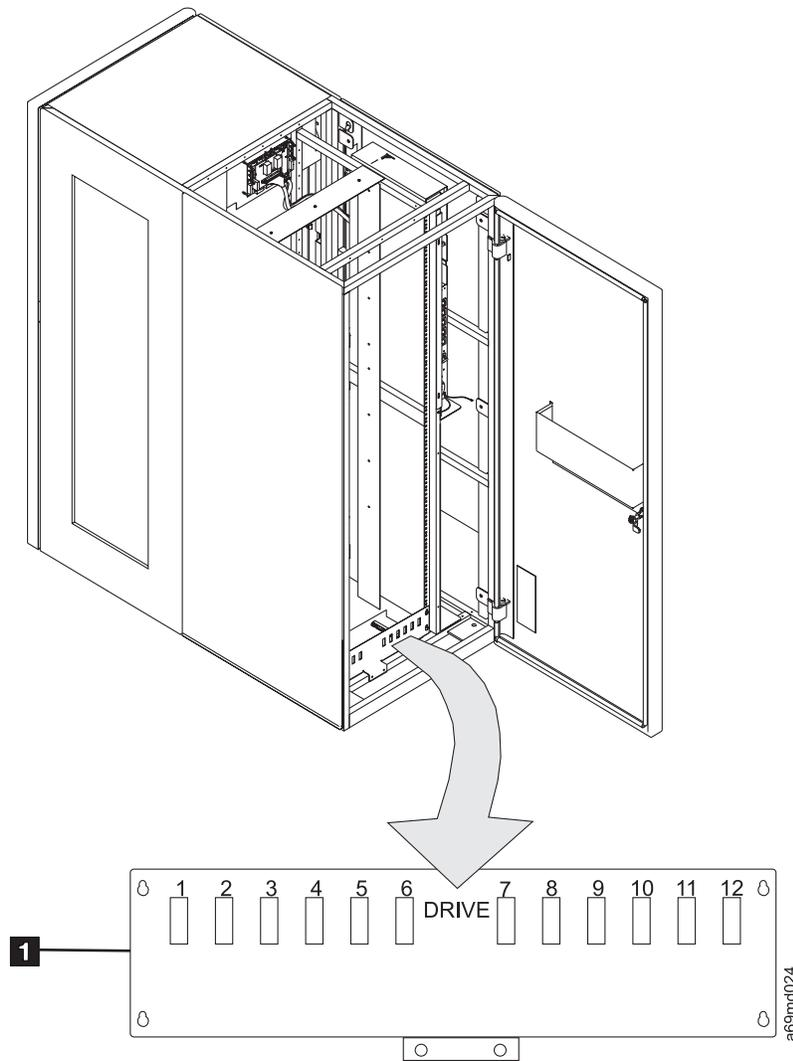

Figure 72. Fibre Channel Bulkhead
2. When installing LTO Fibre drives, a 2 m (6.6 ft) cable (P/N 11P2227) goes from the drive ports to an interposer connector on a bulkhead at the bottom of the frame. The customer's cable attaches to the other side of the bulkhead connector. See Figure 72 on page 155.